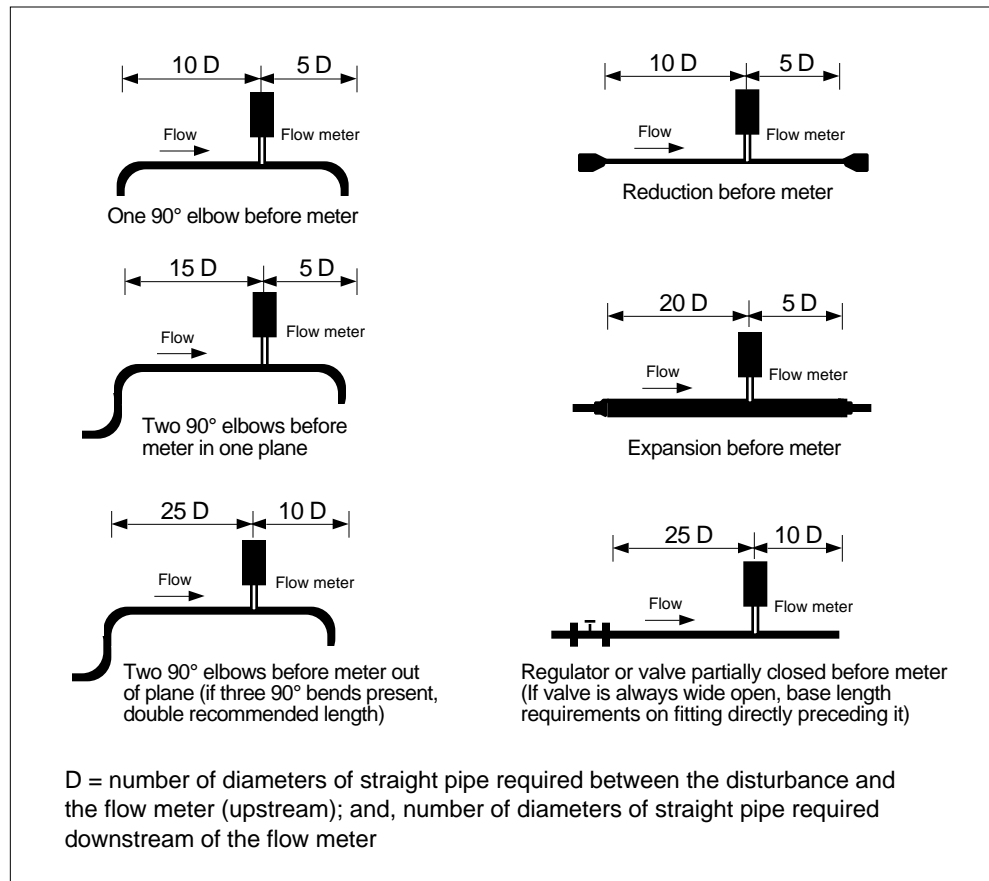

Figure 2. Recommended Pipe Length Requirements for Installation
3. The location meets the required minimum number of pipe diameters upstream and downstream of the sensor head (see Figure 2).
Select an installation site that will minimize possible distortion in the flow profile. Valves, elbows, control valves and other piping components may cause flow disturbances. In order to achieve accurate and repeatable performance install the flow meter using the recommended number of straight run pipe diameters upstream and downstream of the sensor given in Figure 2.
3. Verify the flow meter is installed with the correct number of upstream and downstream pipe diameters as shown in Figure 2.
Flow meter installed with less than required minimum pipe diameters upstream and downstream of the sensor	Follow installation requirements shown in Figure 2